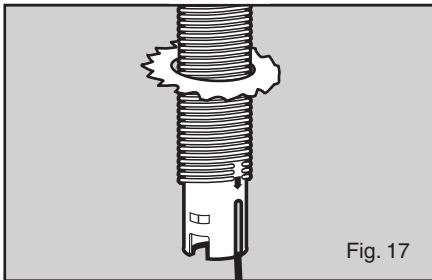

Fig. 17
18. Position the lock washer on the bottom of the threaded soap discharge head (see figure 17)